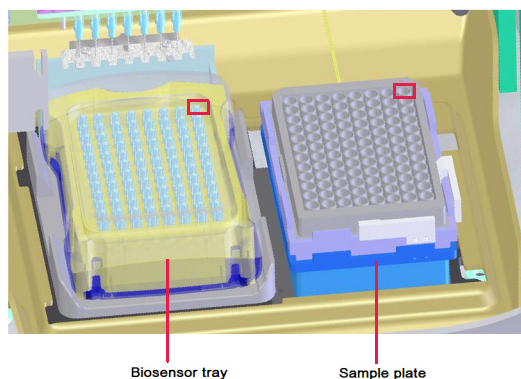

Figure 9-55: Biosensor Stage (left) and Sample Stage (right)
2. Place the biosensor tray on the biosensor stage (left side) so that well A1 is located at the upper right corner (see Figure 9-55).
- Place the sample plate on the sample stage (right side) so that well A1 is located at the upper right corner (see Figure 9-55).